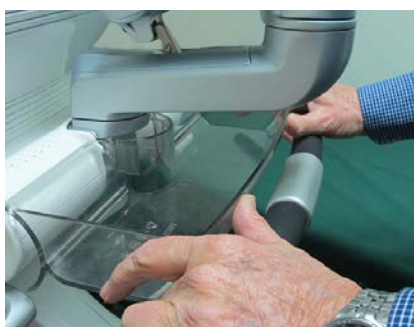

Figure 8-25 Installing the OPIO Basket
- 2) Using both hands, carefully push it *inwards* to secure it on the two snap-lock securing clips - one on either side of the column - refer to Figure 8-25.